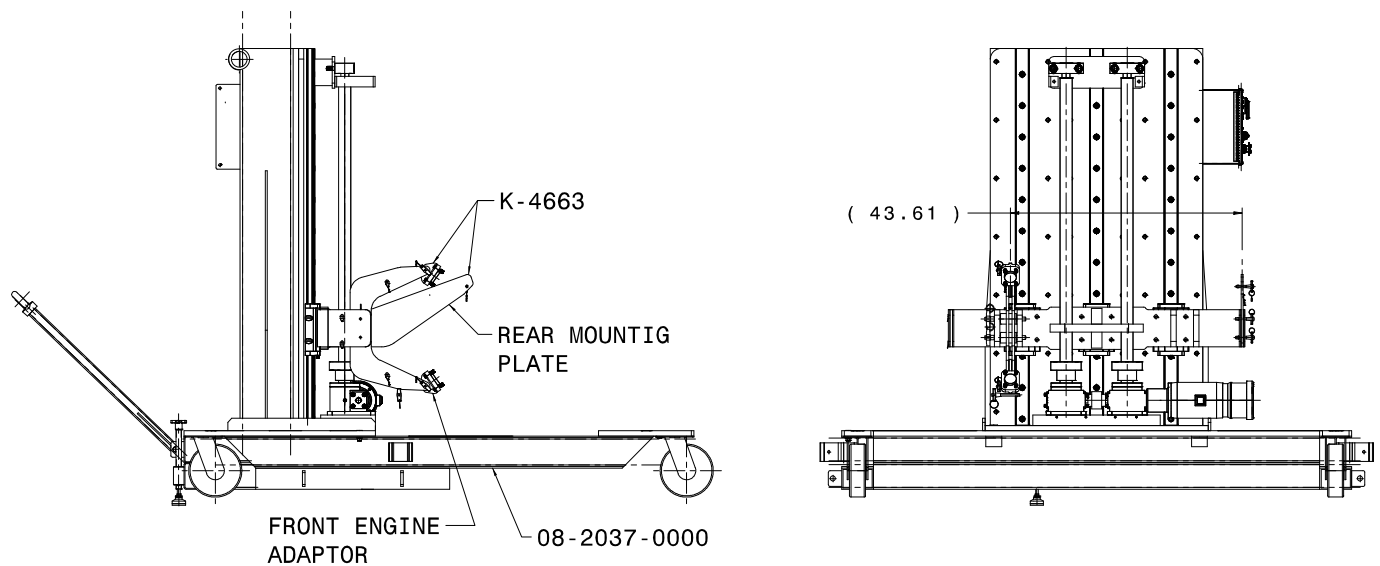

FIGURE 1
4. Pin the rear mounting adapter (J-5212-01) to the rear locating hole on the engine. See Figure 1.